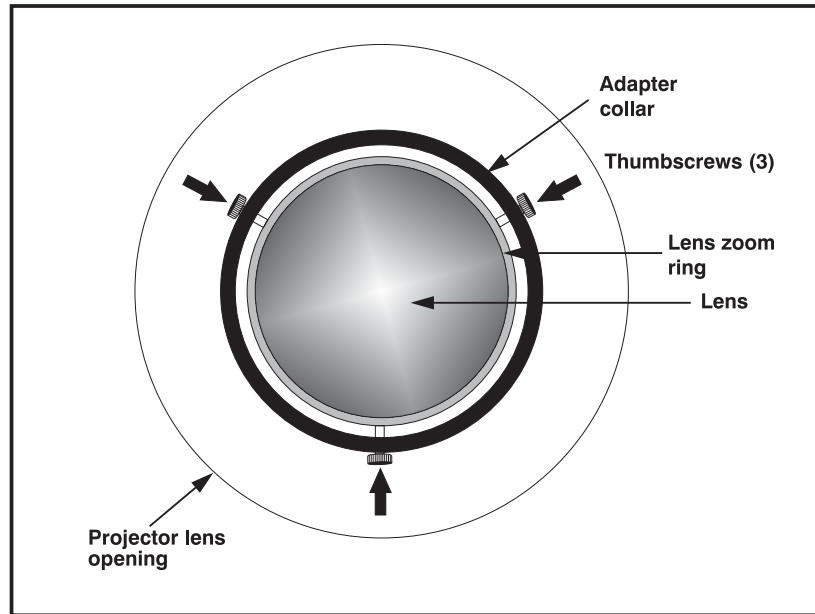

Figure 4.13. Tighten 3 thumbscrews equally
*NOTE: To remove a motorized zoom lens, loosen the 3 thumbscrews securing the zoom adapter collar around the perimeter of the lens (see Figure 4.13). Then unscrew the lens **and** pull out the adapter collar.*
- g) Gradually tighten the 3 thumbscrews equally, taking care to keep the adapter collar and lens centered with one another (Figure 4.13). The adapter collar should be securely attached to the lens when you are done, enabling the lens to move with **[Lens]** adjustments.